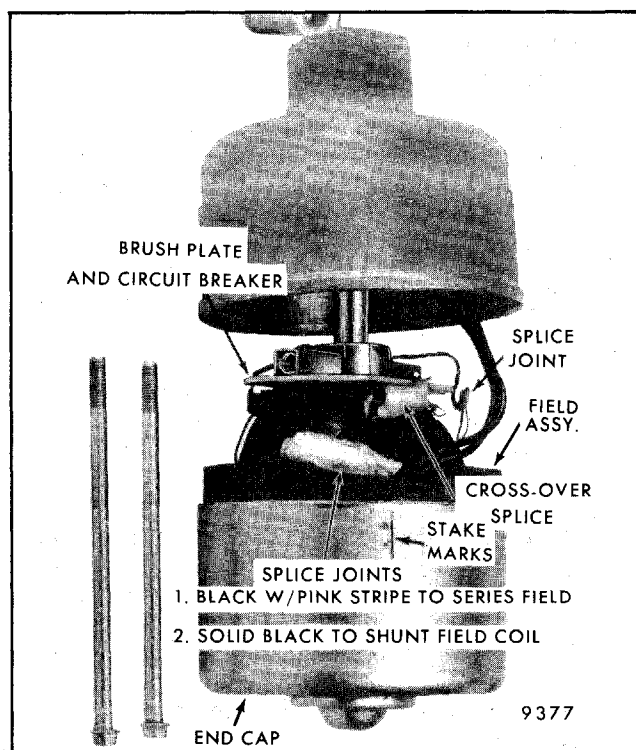

Fig. 2-43-Field and End Cap Assembly
3. Feed exposed excess length of motor leads through the casting grommet and carefully back the case and field assembly plus the armature away from the casting (Fig. 2-43).